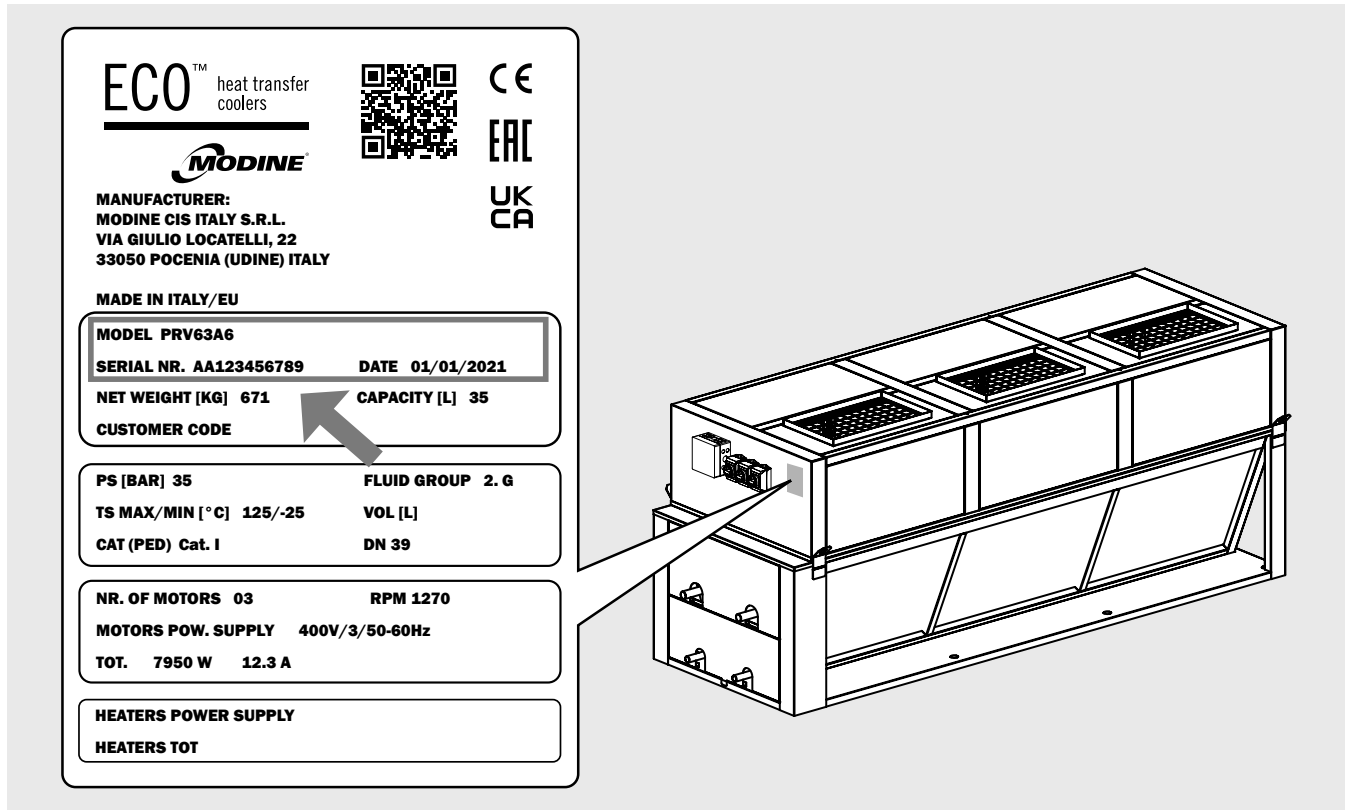

Figure 1
- 3.1 For any communication, request for assistance or spare parts, please provide the model name and serial number shown on the data plate (see "Figure 1"):